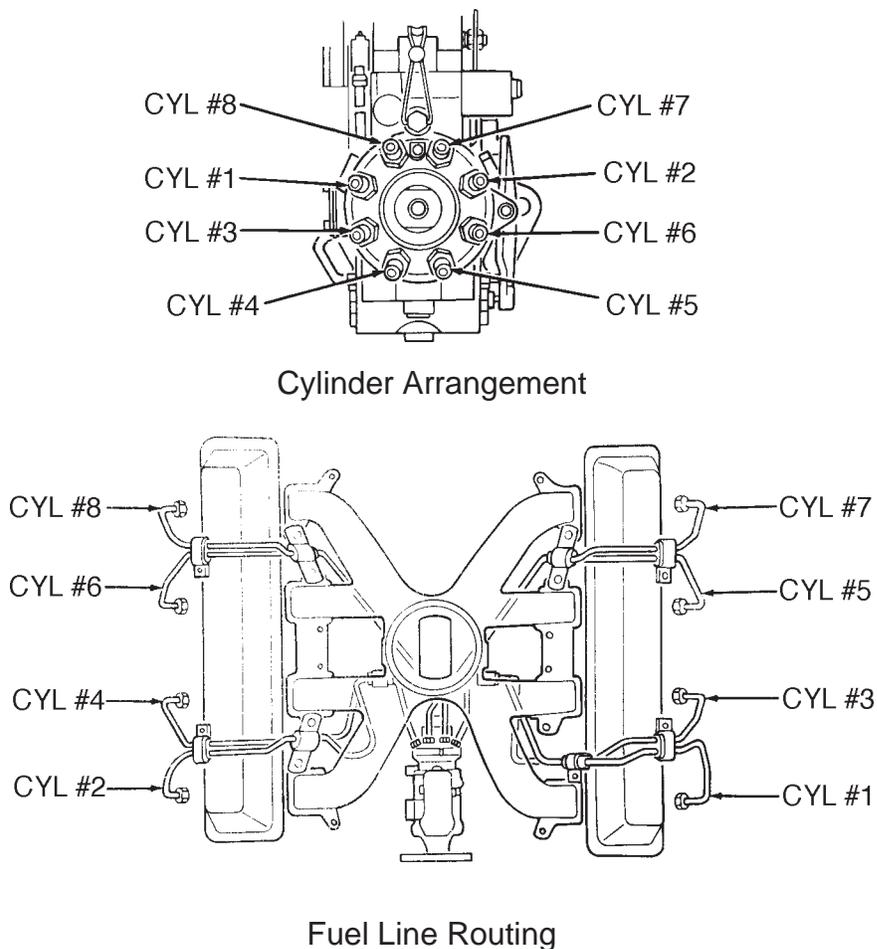

Figure 3-1. Cylinder Arrangement and Fuel Line Routing.
A. 6.2L V8 DIESEL ENGINE (Figure 3-1)
The engine cylinders are numbered 1, 3, 5, and 7 on the left bank, and cylinders 2, 4, 6, and 8 on the right bank with a firing order of 1-8-7-2-6-5-4-3. The odd-numbered cylinders are on your right-hand side when viewing the engine from the front. Both the cylinder arrangement and the injection pump fuel line routing are illustrated in Figure 3-1.